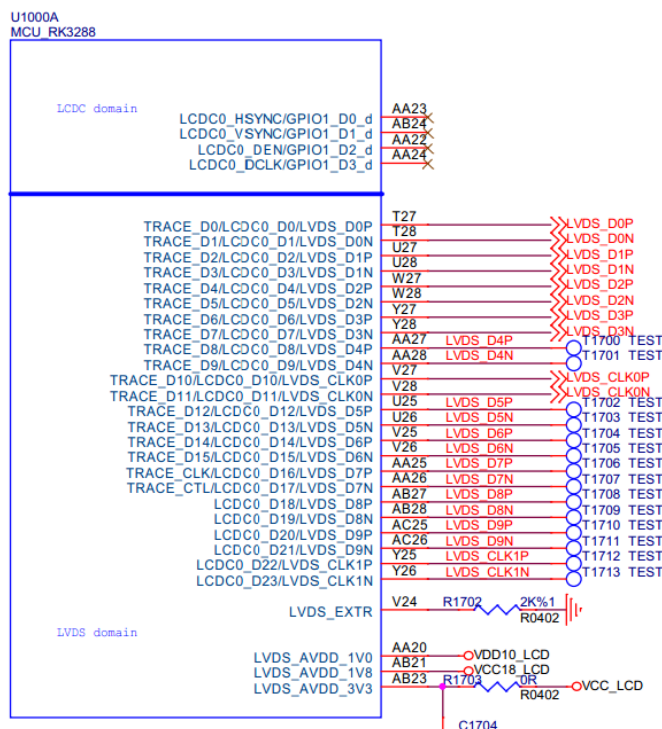

Figure 14-2
- The output coupling capacitors of eDP data channels should be close to the chip terminal, shown as Figure 14-2;